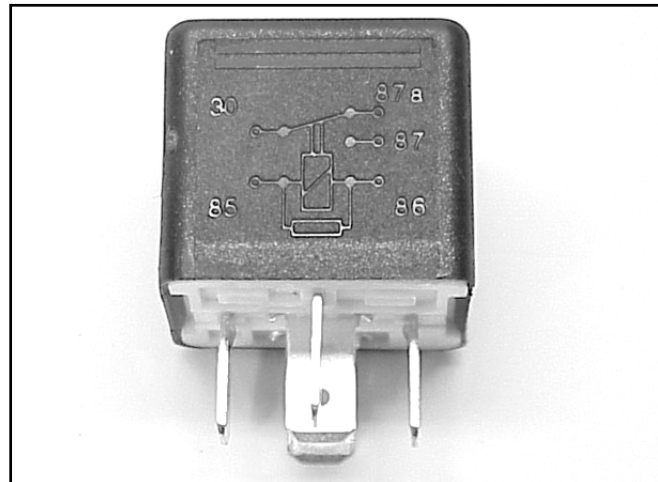

Figure 16
2. Switch: Terminals 30, 87, and 87a are actually part of a single pole, double throw (SPDT) switch. Terminal 30 is the common lead. The switch is spring loaded so that 30 and 87a are connected when the coil is not energized. When the coil is energized, the switch is “thrown” and 30 and 87 are connected (Figure 16).